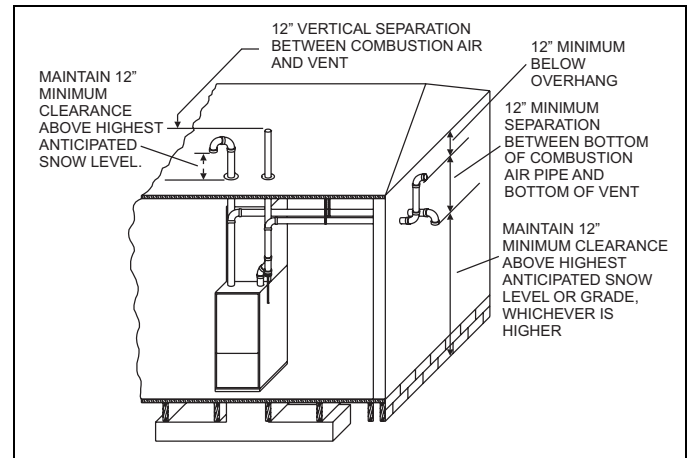

FIGURE 18: Termination Configuration - 2 Pipe
8. Sealed combustion air systems must be installed so the vent and the combustion air pipes terminate in the same atmospheric zone. Refer to Figure 18.